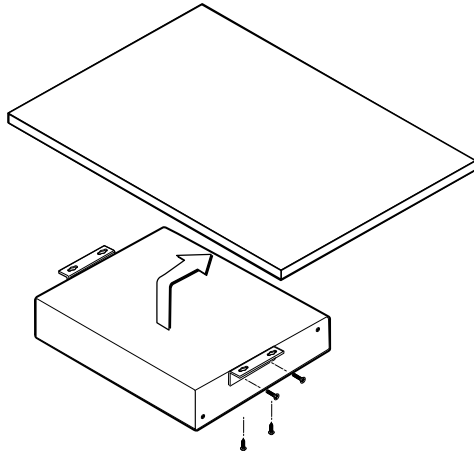

Figure 2-2 — Under-desk mounting the unit
2. Secure the mounting brackets to the unit with the machine screws provided (figure 2-2).
7. Slide the unit slightly in or out, then tighten all four screws to secure the unit in place (figure 2-2).